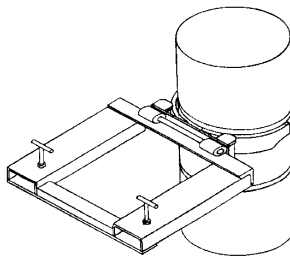

Figure 3
7. When jaws surround drum, raise forks until jaws rest under upper rolling rib. Drum can now be raised and moved where desired. (Figure 3)